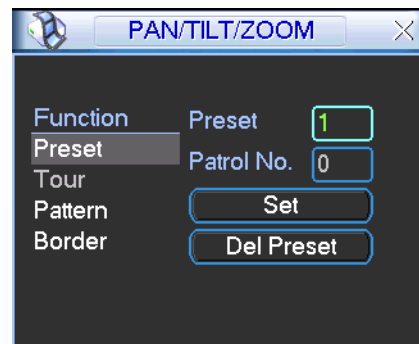
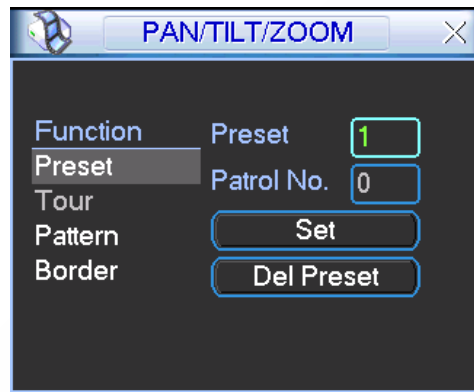

Figure 5-26
Figure 5-28
In Figure 5-24, please click the “set” button. The interface is shown as below. See Figure 5-26.
- The following setups are usually operated in the Figure 5-24, Figure 5-26 and Figure 5-27.
In Figure 5-26, click preset button and input preset number. The interface is shown as in Figure 5-28.
In Figure 5-26, click patrol button. The interface is shown as in Figure 5-29. Input preset number and add this preset to a patrol (tour). For each patrol (tour), you can input max 80 presets.
In Figure 5-26, input patrol (tour) number in the No. blank and click patrol button
In Figure 5-26, click pattern button and then click "begin" button. The interface is shown as in Figure 5-30. Then you can go to Figure 5-24 to modify zoom, focus, and iris.
In Figure 5-28, click border button. The interface is shown as in Figure 5-31.